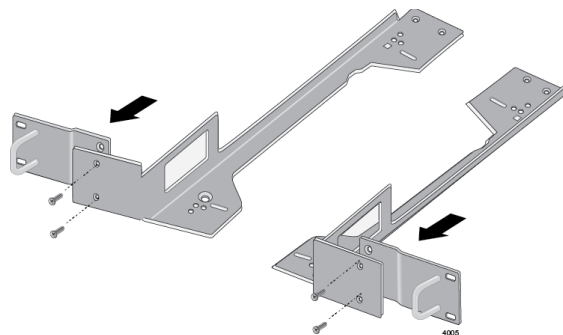

Figure 22. Attaching Brackets to Plates
4. Attach the short bracket and handle to the long bracket with M4x6mm screws using a Phillip-head screw driver as shown in Figure 22.